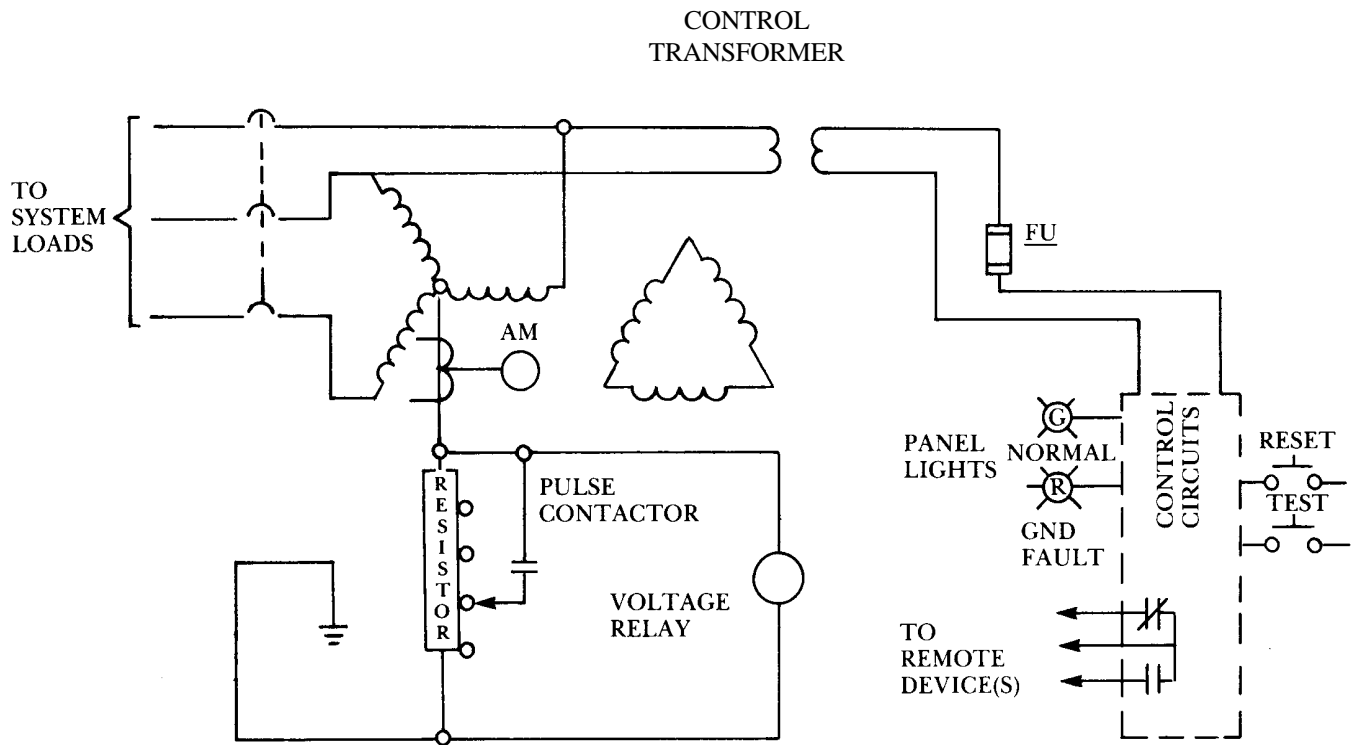

Figure 1. Basic System Operation
During normal conditions, with no ground fault on the system, no voltage appears across the system and no voltage appears across the grounding resistors. (Refer to Fig. 1).
2. Disconnect or open-circuit the resistors during test, and insert a 6-amp, 600V current limiting fuse as shown in Figure 1.
3. Connect a Variable Voltage Auto Transformer rated five (5) amps or more between equipment and ground as shown. Initially set at zero volts.